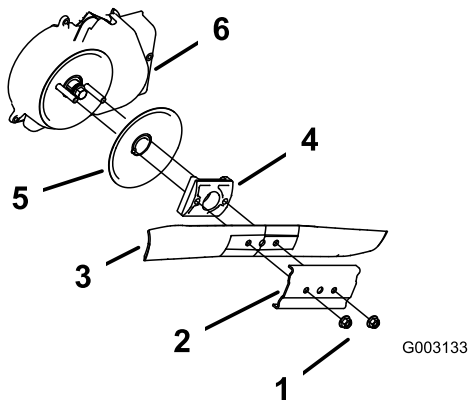

Figure 31
3. Remove the 2 blade nuts and the stiffener (Figure 31).
4. Remove the blade (Figure 31).
5. Remove the blade driver and disk (Figure 31).
6. Remove the blade-brake-clutch shield (Figure 31).
10. Install the blade and the stiffener that you previously removed (Figure 31).